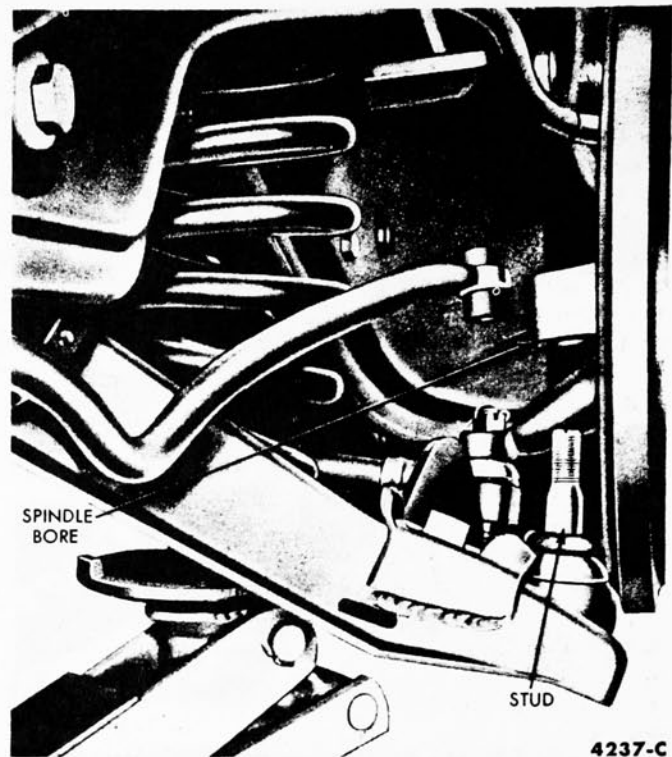

FIG. 12—Ball Stud and Spindle Bore Alignment
3. Position the jack directly behind the lower arm at approximately a 60° angle away from the wheel and toward the center of the car. Push the jack outboard as it is raised to align the ball stud with the spindle bore (Fig. 12).